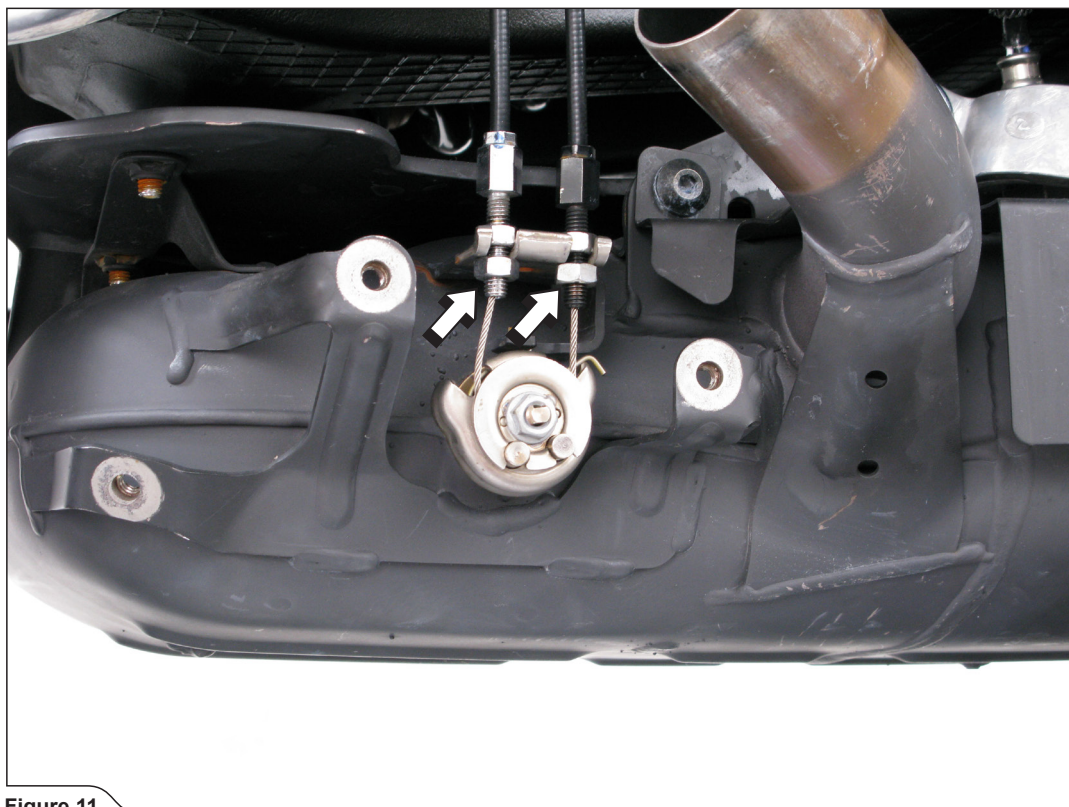

Figure 11
10. For OPEN SLIP-ON only: unscrew the nuts for easier removal the exhaust valve cables (Figure 11).